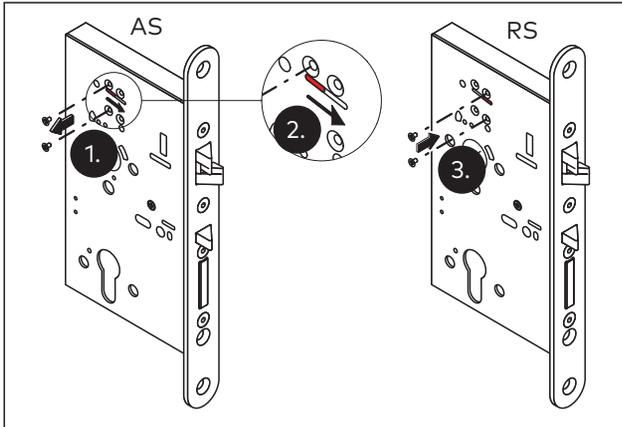

Fig. 21 Change fail secure to fail safe operating current
1. If necessary, change operating mode fail secure (AS) to fail safe (RS)(Fig. 21).